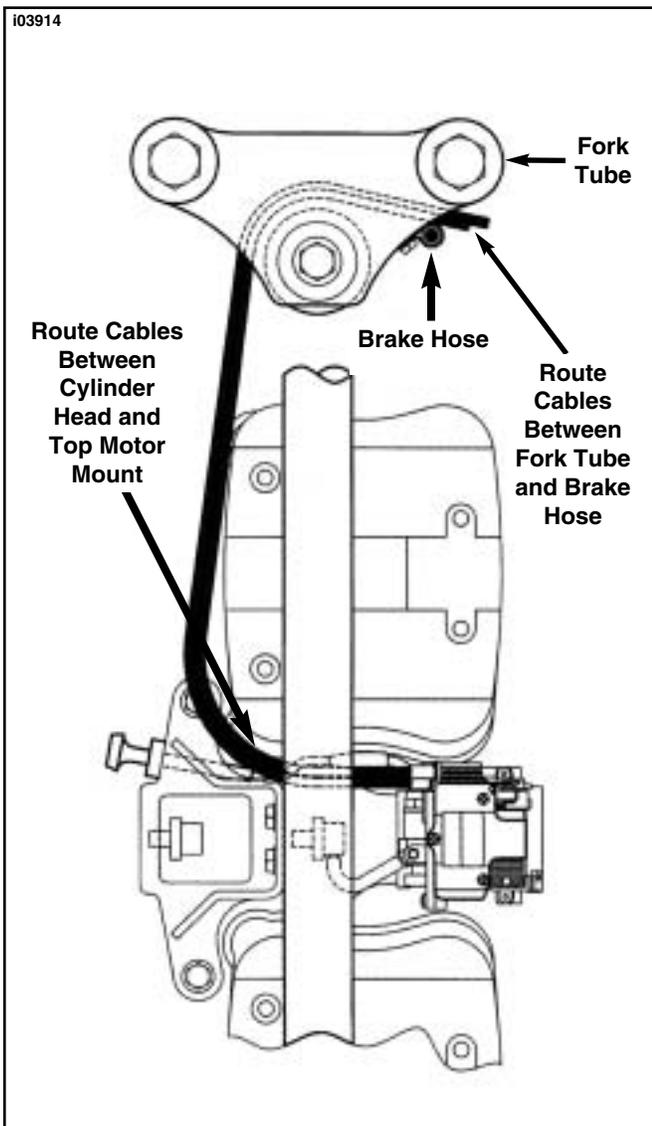

Figure 8. Throttle Cable Routing (XL Models)
1. See Figure 8. Route the throttle cables with large radius curves so that they do not interfere with other components.